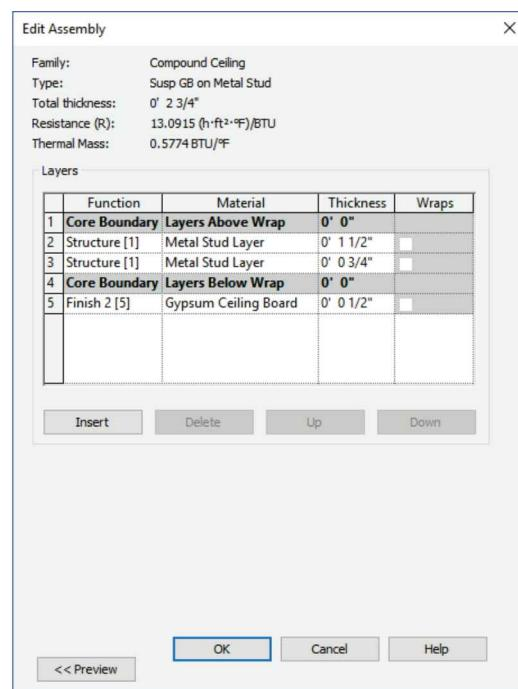

FIGURE 9-2.10 New ceiling – Edit assembly
28. Create a *Layer* and set the *Values* as follows (Figure 9-2.10):